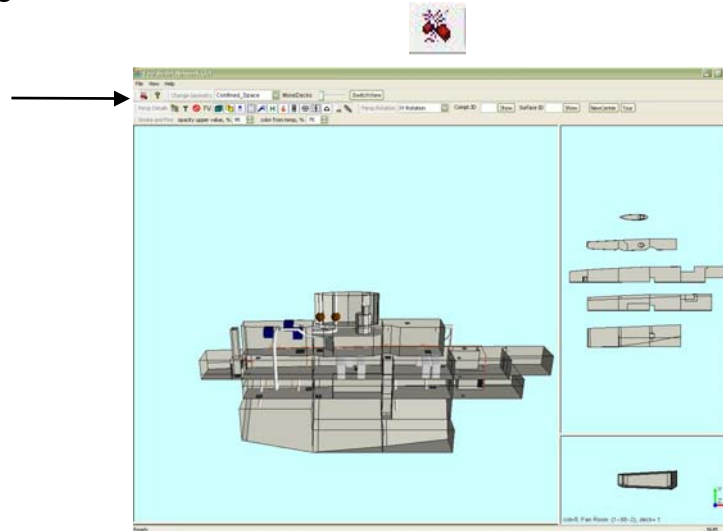

Figure 3-3 Fire Simulation button location on the main FireGUI window
This should bring up the main Fire Model Network GUI (FireGUI) window (Figure 3-3).
Step 2: Click the Fire Simulation button on the main FireGUI window as shown in Figure 3-3.